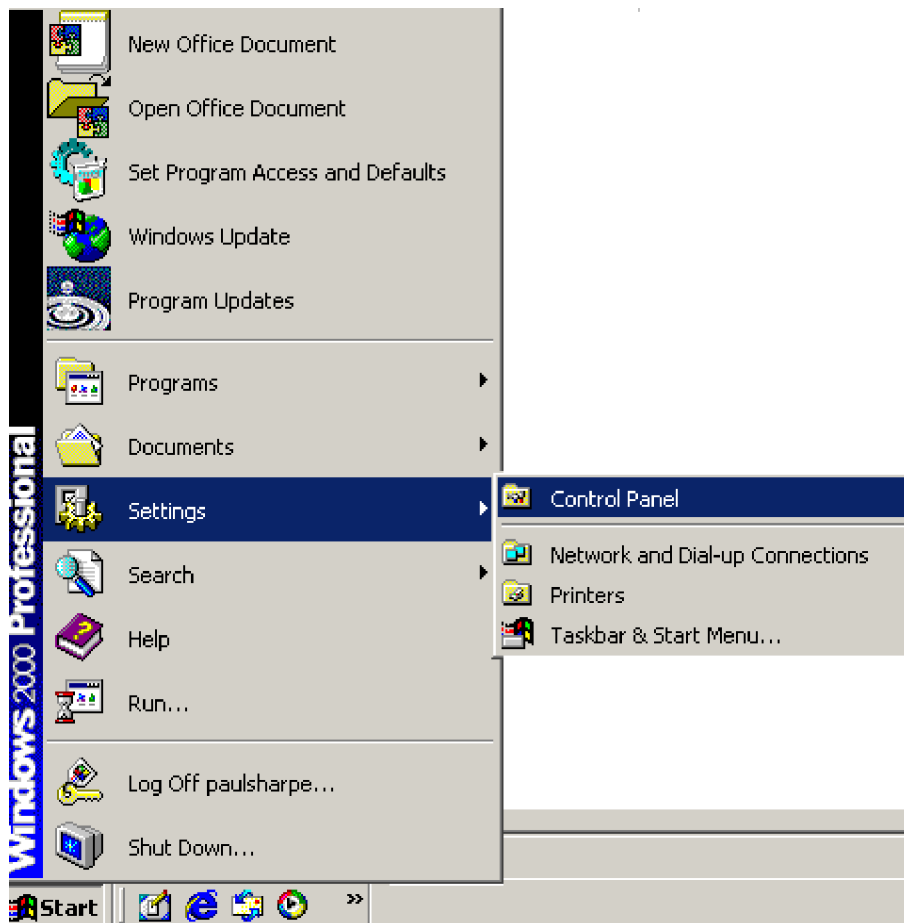

Figure 6-13: Access Windows Control Panel
Step 1: Open **Windows Control Panel (Figure 6-13)**.